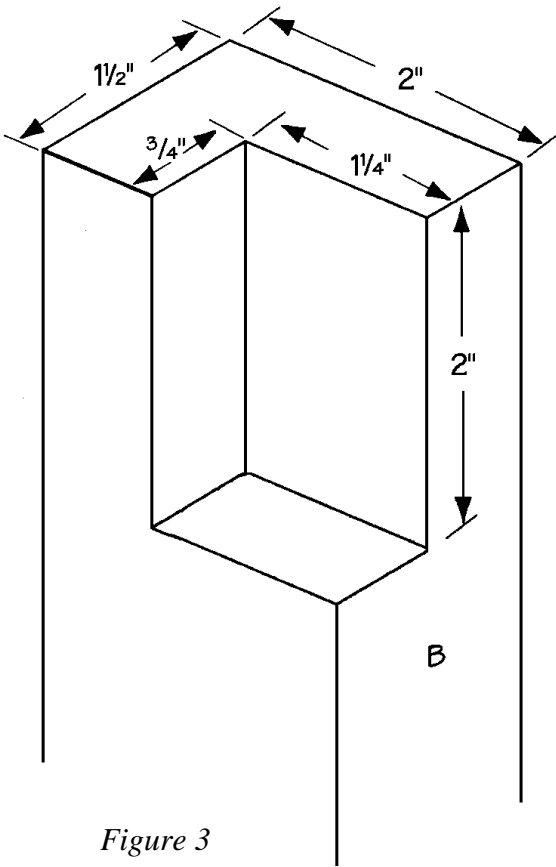

Figure 3
5. Cut two front legs (B) from 2 x 4 pine, each measuring 18 inches long. Rip each leg to a width of 2 inches.
6. The front legs (B) are dadoed to accept the seat rails. Follow *Figure 3* to dado the first front leg (B).
7. Repeat Step 5 to dado the second front leg (B). As with the back legs, the second front leg (B) must be the mirror image of the first front leg (B).